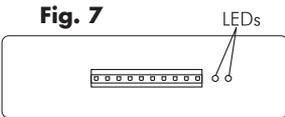

Fig. 7
- Verify the receiver has power. This can be verified by observing if LED1 and LED2 are illuminated. See Fig 7.